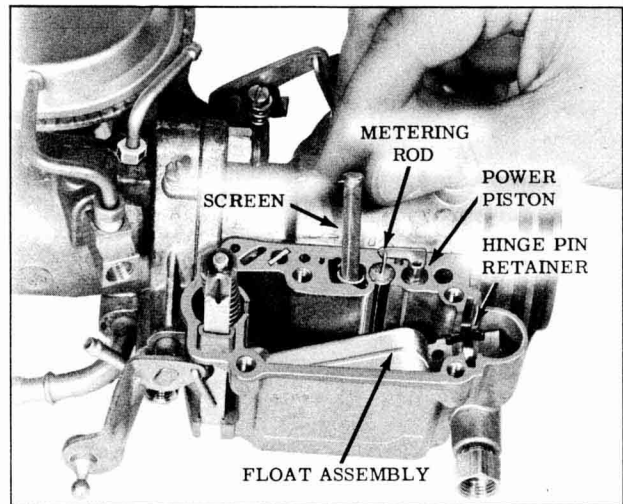

Fig. 9-128 Float Assembly
8. Install hinge pin into float arm, then install float assembly in float bowl with hinge pin located in guide channels in float bowl. (Fig. 9-128)